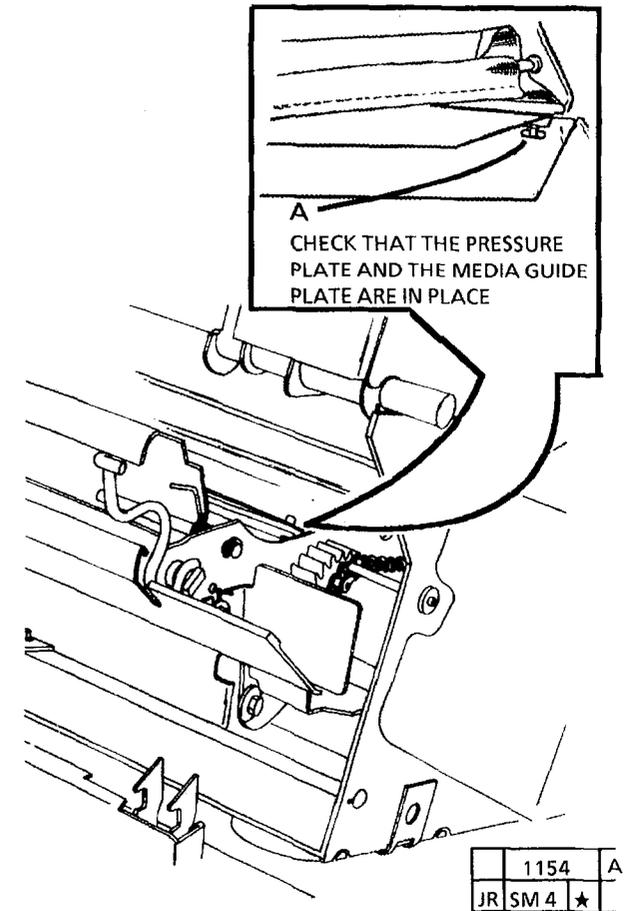

Figure 13. Check the Pressure Plate and the Media Guide Plate
17. (FIGURE 13): CHECK THE PRESSURE PLATE AND THE MEDIA GUIDE PLATE.